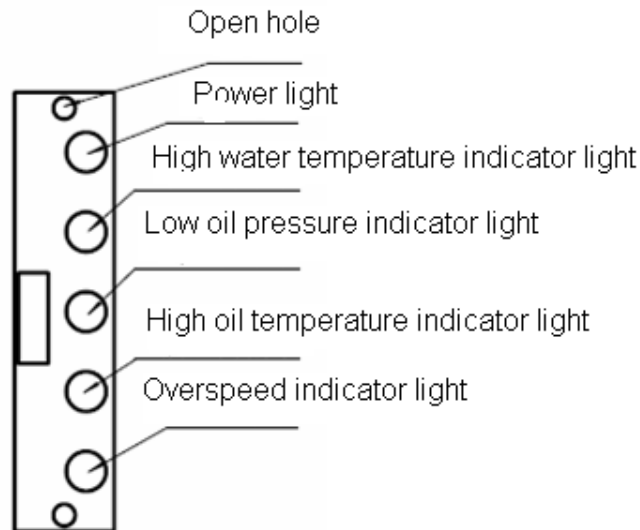

Fig2. PCB of indicator light
4. Fault indication: The meaning of indicator lights are shown in Fig 2.